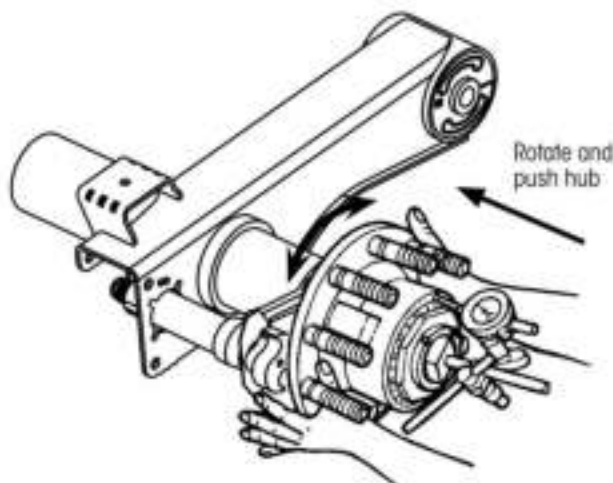

Figure 5: Checking inward end-play
NOTE: A reasonable assessment can be performed without removing tires and rims. However, this procedure is best performed with hub only as shown in Figure 5 on page 8.
8. Grasp hub flange, as shown in Figure 5, and push the hub inward while rotating hub slightly in both directions (between two hub cap fastener holes) until the dial indicator reading remains constant. Record reading.